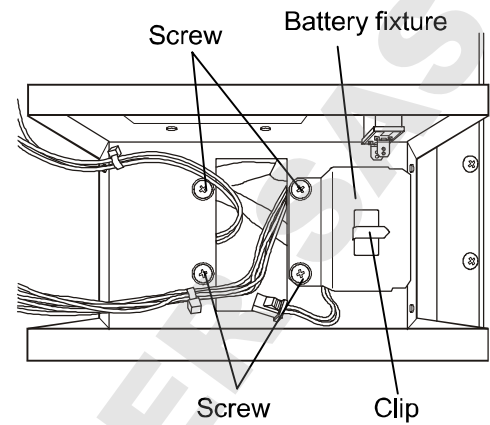
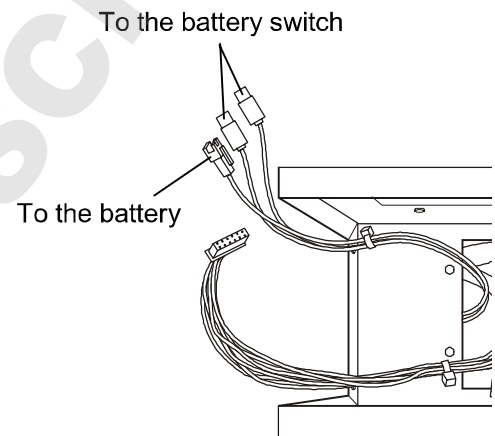

Fig. 4
Fig. 5
7. Fix the recorder sensor to the sensor fixture. [Fig. 5]
5. Put the battery fixture over the battery and fix the battery box and battery fixture by 4 screws. [Fig. 4]
6. Connect the harness to the battery connector and battery switch [Fig. 5] and bind the harnesses by the clip on the battery fixture. [Fig. 4]